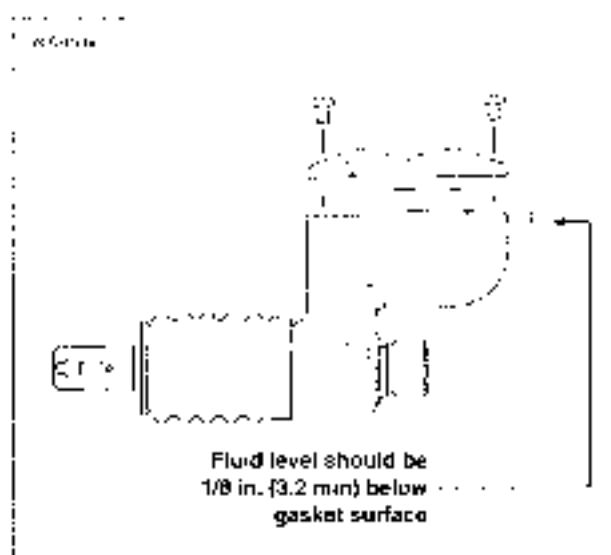

Figure 1-10. Rear Brake Master Cylinder Reservoir
1. See Figure 1-10. Check level in rear brake master cylinder reservoir. Level should be 1/8 in. (3.2 mm) below the gasket surface.